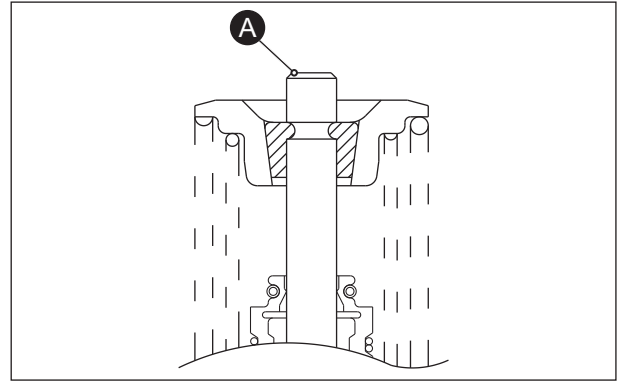

Fig. 3.67
- Inspect the valve stem end face (A) for pitting and wear. If pitting or wear noticed, replace the valve with a new one. (Fig. 3.67)